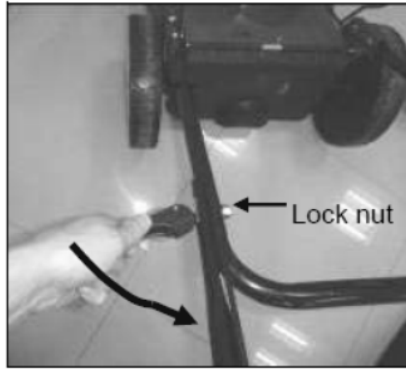

Fig. 2B
2. Lift the two locking levers to release the upper handlebars for folding. (Fig. 2B)
3. Push the locking lever closed to lock the handlebars in the operating position. (Fig. 2B)